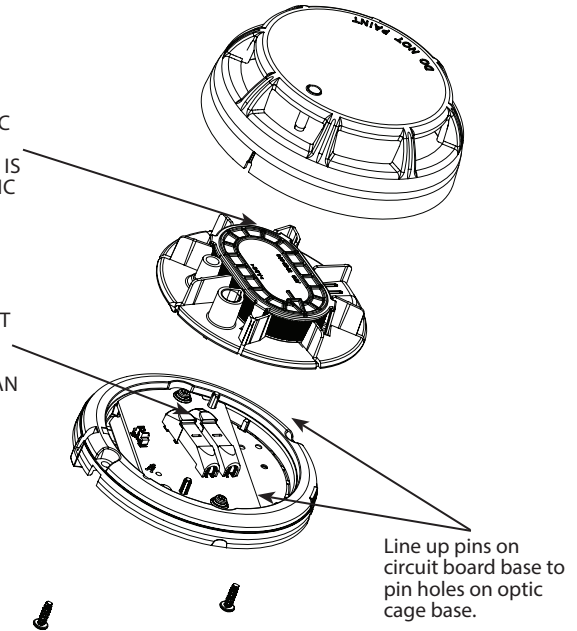
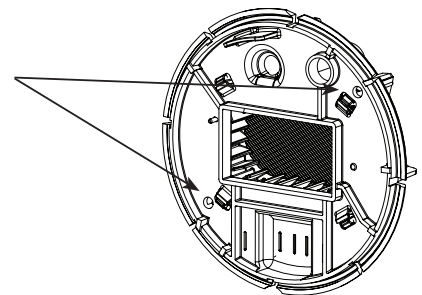

FIGURE 4: Remove Optic Cage Base from Detector for Cleaning (PD models only)
FIGURE 5: Pin Holes on Back of Optic Cage Base (PD models only)
4. Remove optic cage base from the circuit board base (FIGURE 4).
6. After cleaning with compressed air, line up the two pins on the back of the optic cage base to the pin holes on the circuit board to place the optic cage base on the circuit board (FIGURE 4 and FIGURE 5)